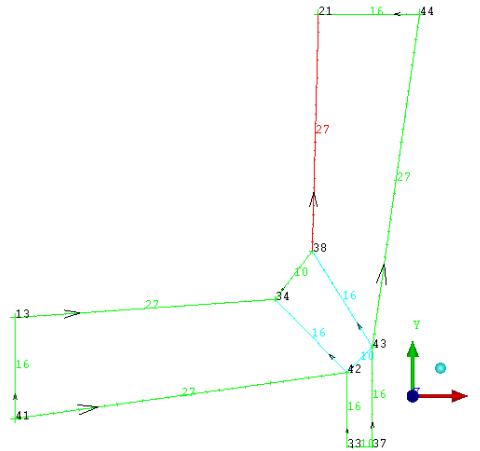

Figure 18: Bunching on Edges After Changing the Number of Nodes
7. Disable **Pre-Mesh** and **Curves** to view the bunching on the edges. See Figure 18.